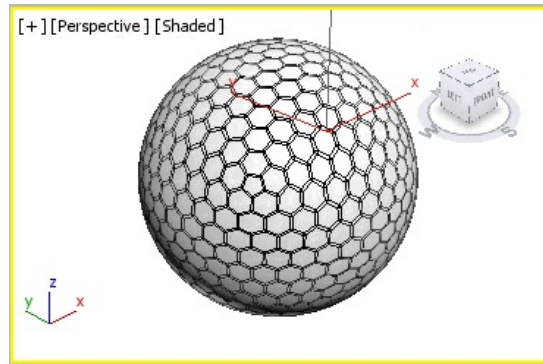

Figure 8-116 All edges of golf ball chamfered
8. In the **Edit Geometry** rollout, set the value of the **Chamfer** spinner to **5** and press ENTER; all the selected edges of *golf ball* are chamfered and hexagonal polygons are created, as shown in Figure 8-116.